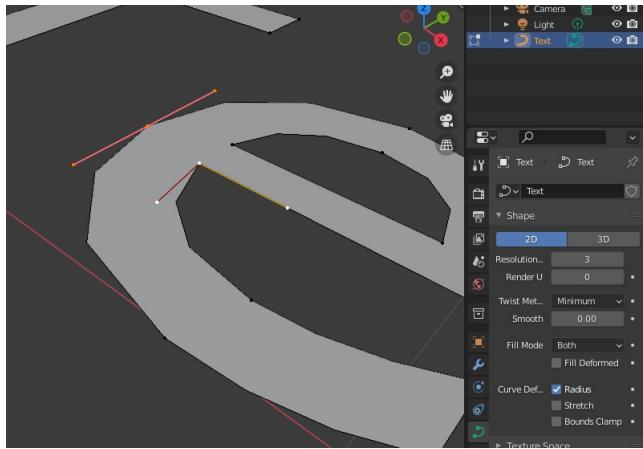

Figure 3-1 Editing Curves
1. Start Blender and delete the default cube. then select **Add ▾ Text** which will create a Text object with the word "Text", notice that the icon in the Outliner Editor is a letter "a". Convert the text with **Object ▾ Convert ▾ Curve** which will appear to do nothing but the icon in the Outliner Editor will have changed to a curve. Switch to Edit mode and select the Object Data Properties tab which looks like a green curve connecting two little squares, visible at the bottom of Figure 3-1.
3. To see how the curve is controlled by the different types of control point, select a control point in the middle of a curve then select a different one at a sharp corner, such as the ones selected in Figure 3-1. You will see that handles (the lines controlling the shape of the curve) are different colors: pink is used for Aligned which is the default type, red is Free and yellow is Vector, you can change the handles using Control Points ▶ Set Handle Type.